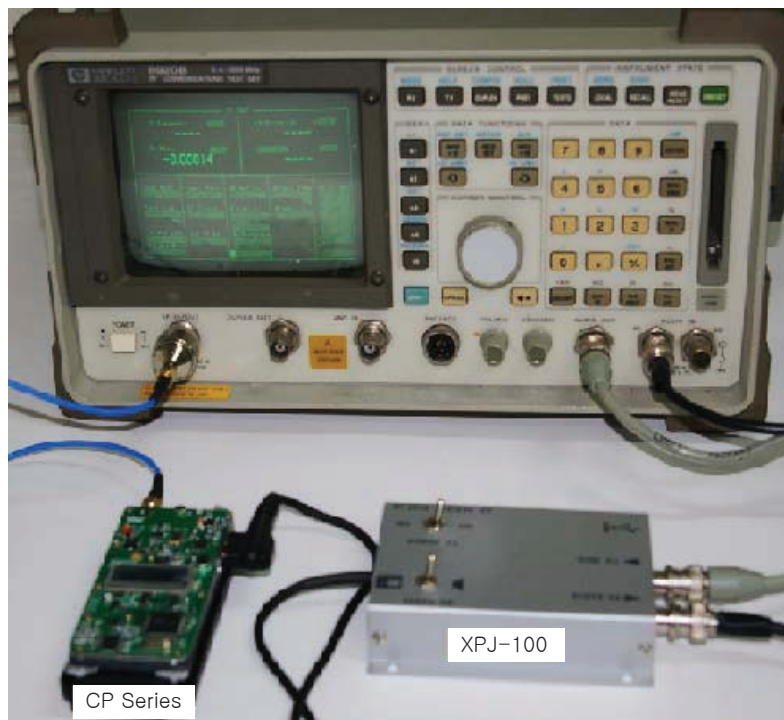

Figure 9-2) Measurement with HP8920
- 1) An antenna and a jig cable are connected as Figure 9-2)
- 4) After all cables are connected as the measurement method with HP8920 of Figure 9-2), set TX mode.
- 1) After all cables are connected as Figure 9-2 with HP8920, set RX mode.